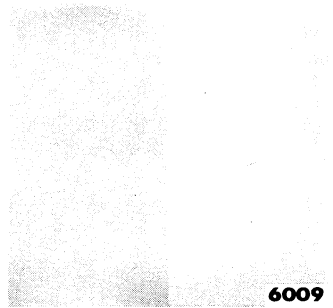

Fig. 29—Off Color
(9) **OFF COLOR.** This term is applied to adjacent areas on which the colors do not match (fig. 29). It may also appear when making spot repairs. *Use repair procedure (2).*